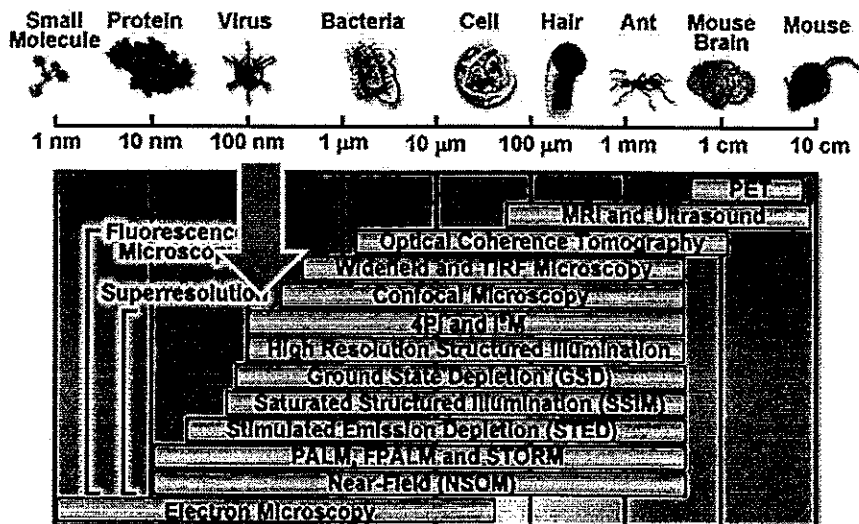

Figure 5: Spatial resolution of biological imaging techniques
- (c) The spatial resolution of biological imaging is also limited by the diffraction limit to several hundreds of nanometers as shown in Figure 5. Explain the reason for this practical limit in terms of λ , n , and θ in a quantitative manner. Explain THREE possible ways to improve the imaging resolution. (8 marks)